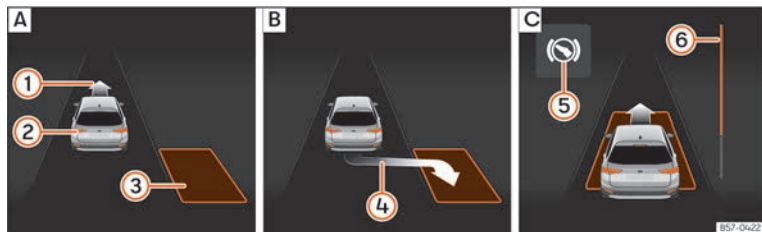
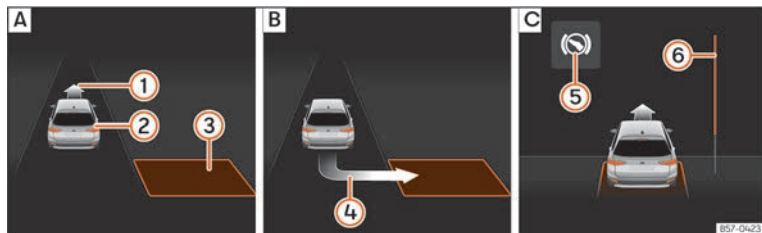

Fig. 205 On the instrument panel display: parallel parking. **[A]** Finding a parking space. **[B]** Parking position. **[C]** Manoeuvring.
Fig. 206 On the instrument panel display: angle parking. **[A]** Finding a parking space. **[B]** Parking position. **[C]** Manoeuvring.
- Look at the display on the instrument panel to see if the space has been detected as “appropriate” and if the correct position for parking has been reached »» Fig. 205 [B] or »» Fig. 206 [B]. The space is considered
- Reverse until the continuous ParkPilot signal sounds; **OR:** reverse until the indication to move forward appears on the instrument panel display »» Fig. 205 [C] or »» Fig. 206 [C]; **OR:** reverse until the **Park Assist finished** message appears on the instrument panel display. The progress bar (6) indicates the distance to cover »» page 288.
- Press the brake pedal until the parking assist system completes the steering wheel turns; **OR:** until the symbol (S) goes out on the instrument panel screen.
- Move forward until the continuous ParkPilot signal sounds; **OR:** move forward until the reverse indication appears on the instrument panel display. The Park Assist system steers the vehicle forward and back until it centres it in the space »» Fig. 205 [C] or »» Fig. 206 [C].
»» Fig. 205 (6) and »» Fig. 206 (6) on the screen of the instrument panel displays the relative distance to be covered. The greater the distance, the fuller the progress bar. When driving forward, the content of the progress bar decreases upwards, and when reversing, it decreases downwards.